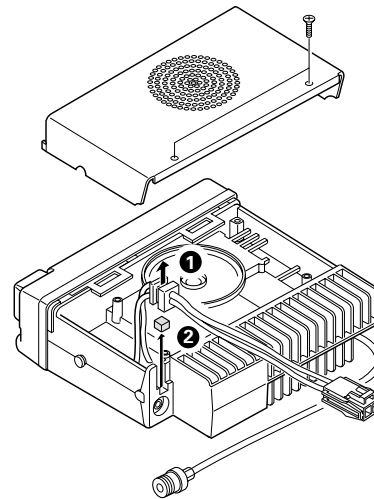

Fig. 1
1. Remove the upper and lower half of the transceiver case, and lift the DC cord bushing (❶) from the chassis.
2. Remove the pad as shown in Figure 1 (❷).
3. Insert the KCT-19 cable (❸) into the chassis (❹).